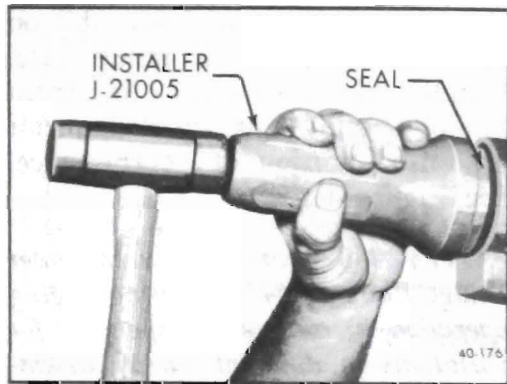

Figure 40-146 Installing Pinion Seal
6. Install new "O" ring seal on pinion. Coat O.D. of new pinion seal with sealing compound and install seal using Installer J-21005. See Figure 40-146.